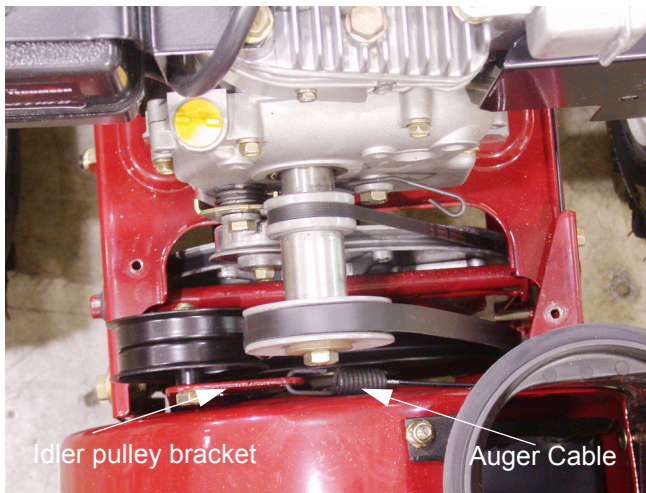

Figure 5.9
- 5.8. Detach the spring end of the cable from the Idler bracket. See Figure 5.9.